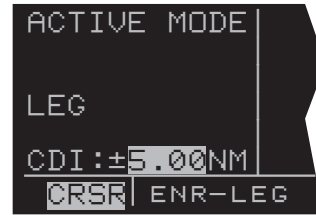

Figure 5-121
2. Press the left **CRSR**. If necessary, use the left outer knob to move the cursor over the value of the CDI scale (figure 5-121).